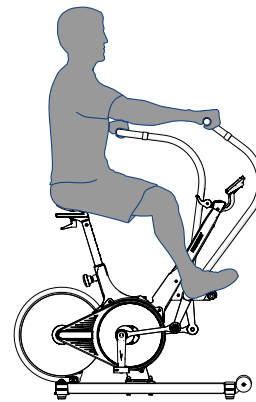

Figure 16. Upper Body Training Exercise Position
**Independent Upper Body Training** (Figure 16) is an advanced workout position that focuses on the upper body and core muscle groups. Maintain a firm grip and complete control of the Handles for optimal workout and to prevent injury.